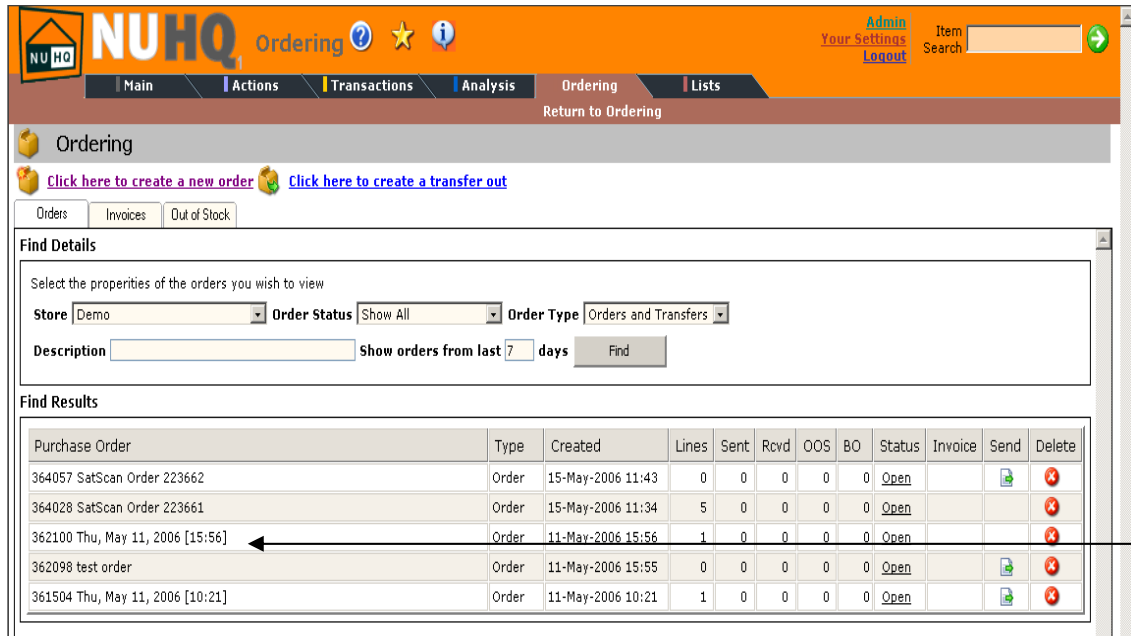

Figure 8: List of Orders
- Click the **Edit** icon beside the **Fred Satscan** order description, this will open the order refer to Figure 8